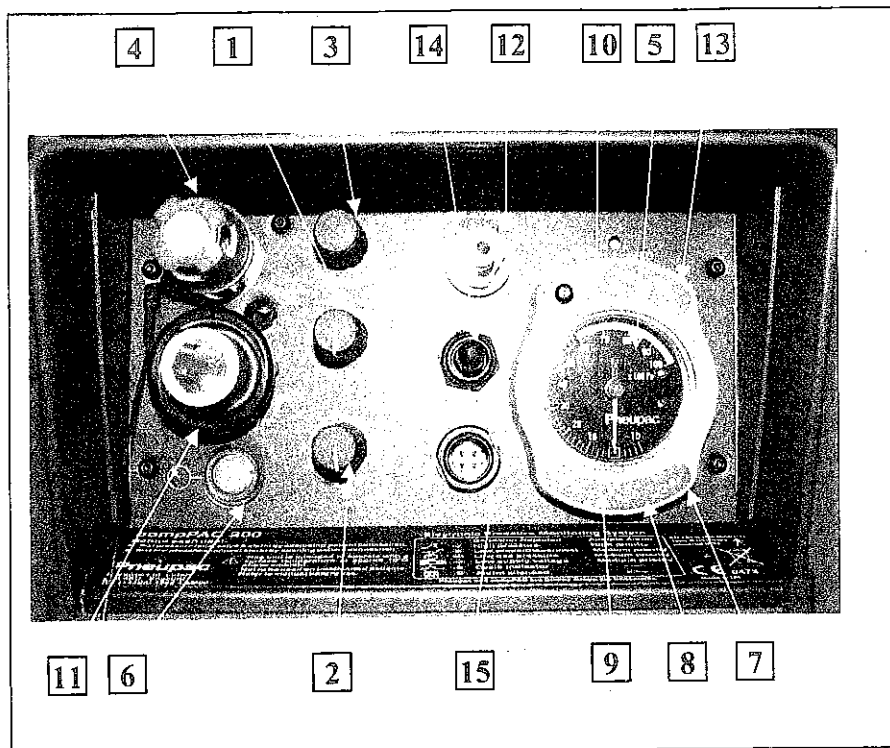

FIGURE 1: compPAC Control Panel
Most of the controls and input and output connections are mounted on the front panel, which is deeply shrouded to give maximum protection from chemical "rain". The layout is shown on Figure 1.
(d) Controls and Features (Figure 1)
1 Minute Volume Control (See Figure 1)
2 Frequency Control (See Figure 1)
3 Oxygen Concentration Control (See Figure 1)
4 Pressure Relief Valve (See Figure 1) (Fixed relief valve is shown)
5. Inflation Pressure Monitor (See Figure 1)
6. Supply Gas Failure (See Figure 1)
7. High Inflation Pressure Alarm (See Figure 1)
8. Cycle Indicator (See Figure 1)
9. Low Inflation Pressure (Disconnect) Alarm (See Figure 1)
10. Silencing of Electronic Audible Alarms (See Figure 1)
11. Patient Outlet Connection (See Figure 1) – GAS OUTPUT
12. Gas Input Connector (See Figure 1) – DRIVING GAS INPUT
13 Electrical Power Indicator (See Figure 1)
14. On/Off Switch (See Figure 1)
15 Auxiliary Electrical Supply Connector (See Figure 1)